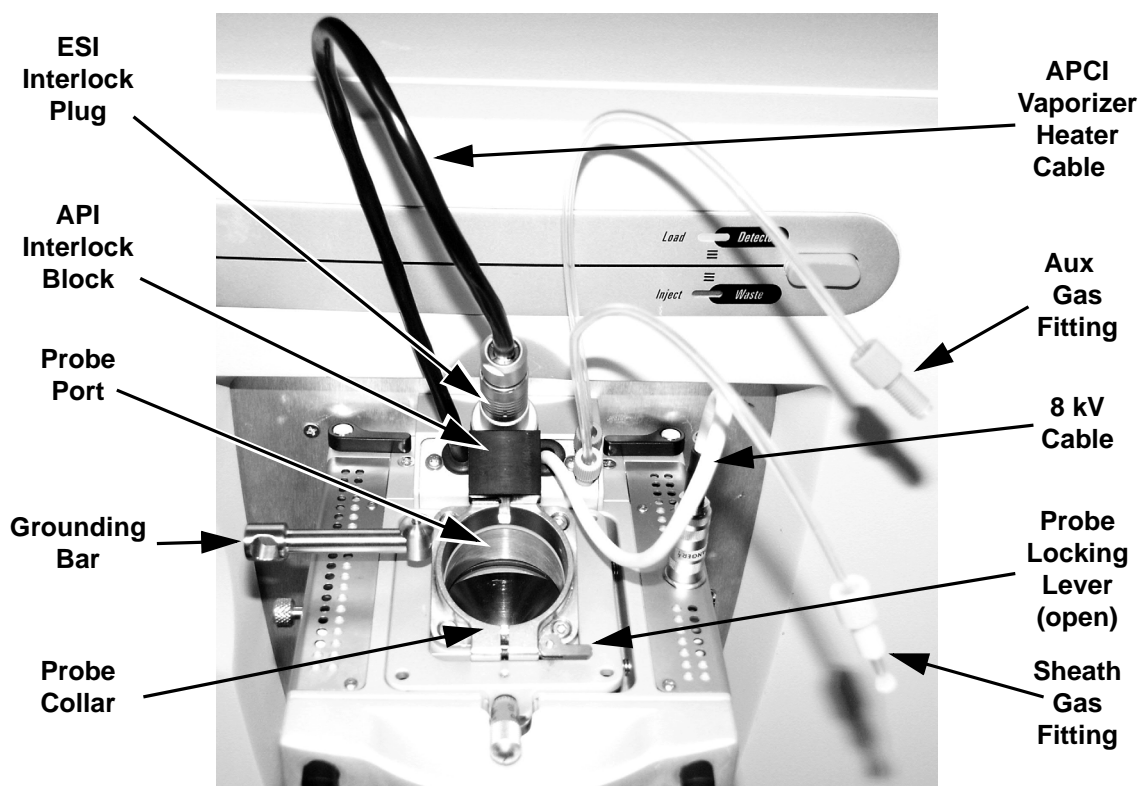

Figure 2-9. Ion Max ion source housing, probe locking lever open
2. Ensure that the probe locking lever on the ion source housing is unlocked (opened to its widest position). See Figure 2-9.